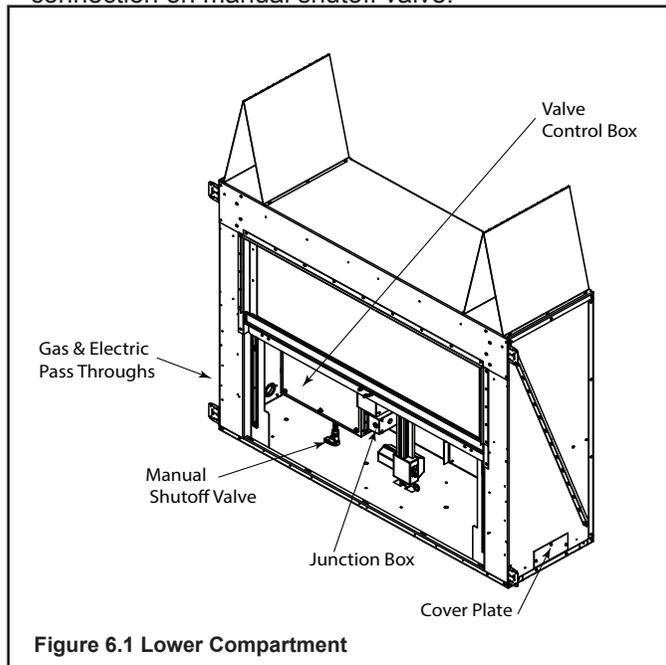

Figure 6.1 Lower Compartment
**Note:** The Palazzo is supplied with two rubber grommets installed on the left side of the appliance for gas and electrical connections. A cover plate is also provided on the right side of the appliance in the event that gas and electrical must be run from the right. If it is determined that gas and electrical are to be run through the right side of the appliance, the grommets and cover plates must be repositioned. See Figure 6.1.